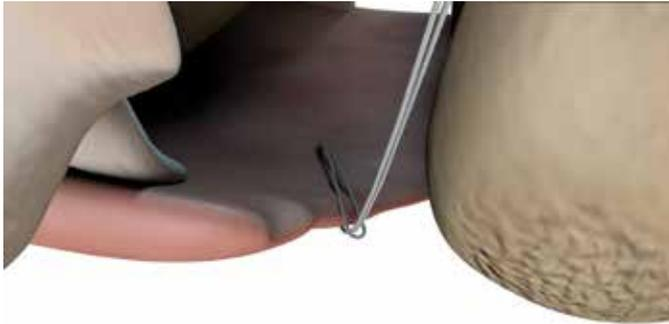

Figure 12: Completed double girth stitch
10. Pass the free ends of the suture through the loop to create a double girth stitch (Figure 12).